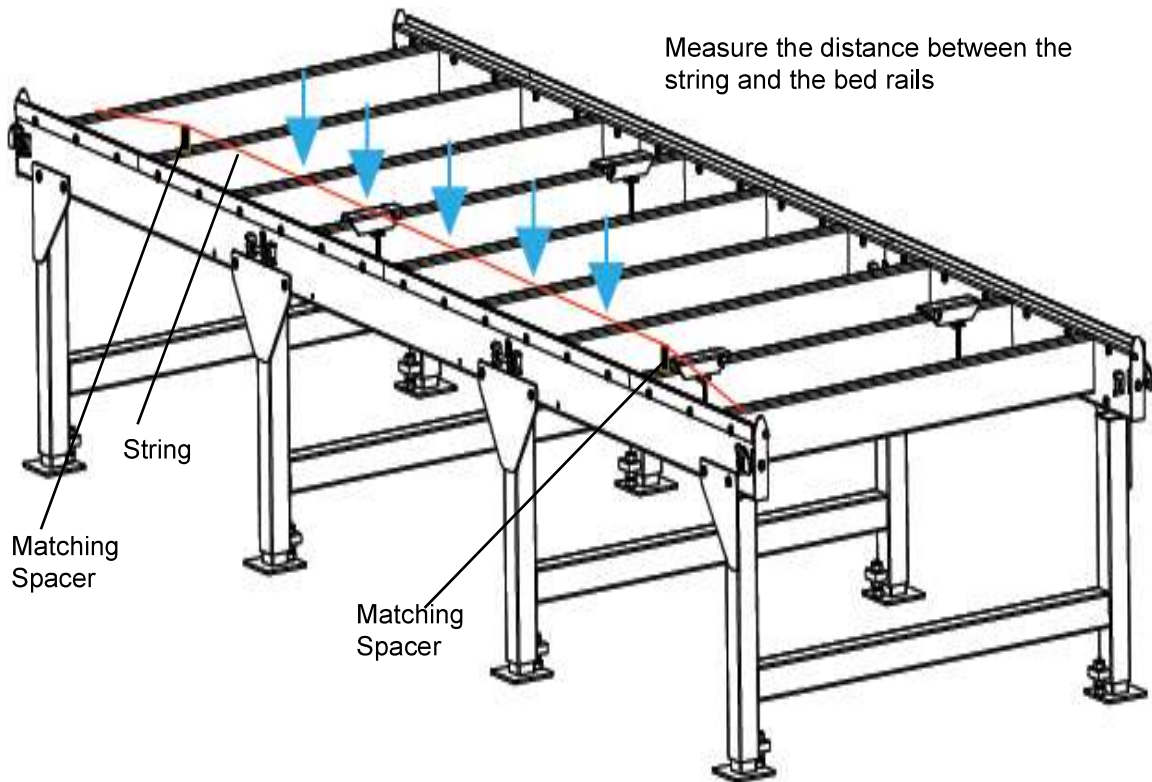

FIG. 4-1
2. Run a string from the front bed rail to the rear bed rail near the operator's side of the frame. See FIG. 4-1